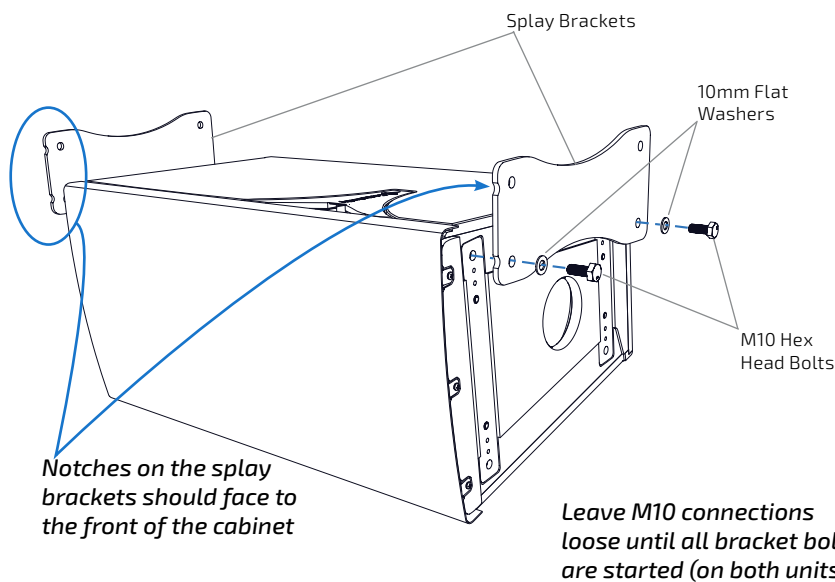

Figure 1. Typical splay bracket attachment to a cabinet
- Follow the splay bracket configuration (EASE® Focus 3 report) and loosely attach the appropriate splay bracket pair to the cabinet being moved into position (Figure 1).